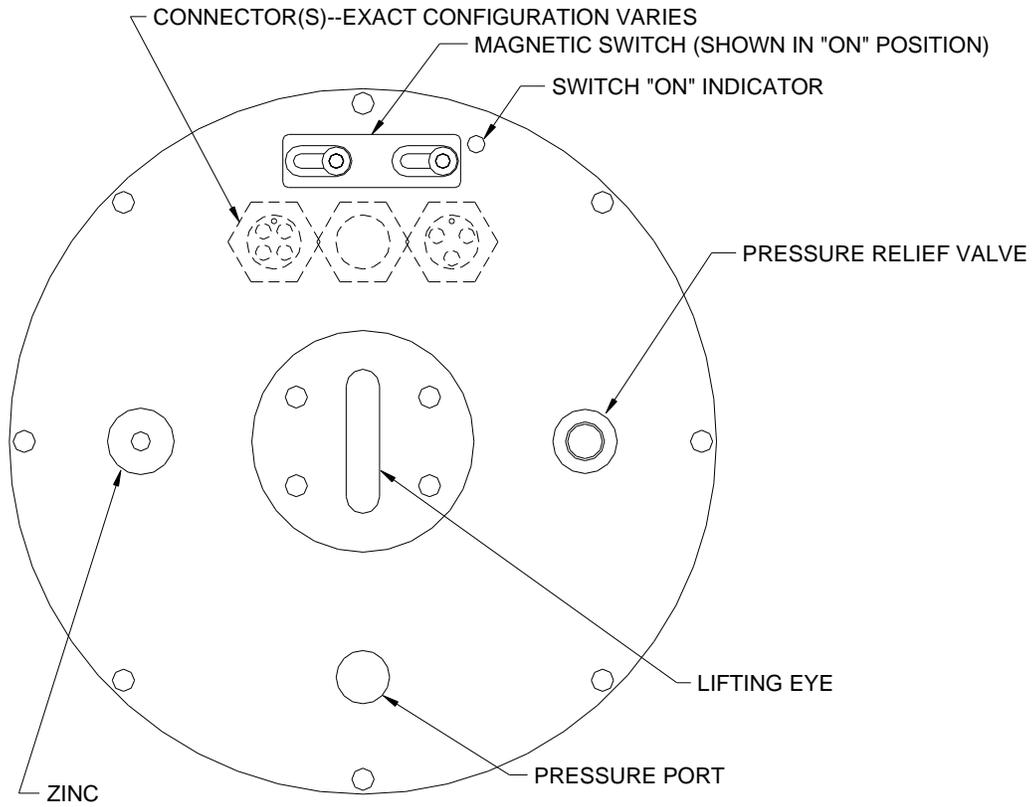

Figure 3: HydroScat-6 Rear End Cap
- 25) To start a cast when the HydroScat is asleep and disconnected from the computer, move the magnetic switch to the on position (see Figure 3 on page 4).